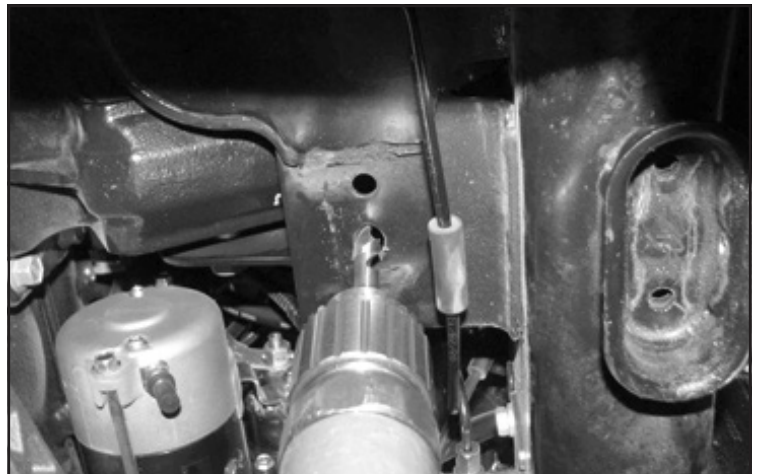

FIGURE 20 - STEP 27
27. Using a 1/2" drill bit, drill out the hole in the factory crossmember inline with the factory bump stop mount. **SEE FIGURE 20**